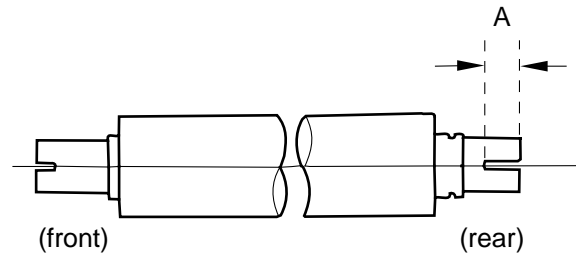

Figure 6-220
a. Orient it so that the side with a longer cut-off (section A in Figure 6-220) is toward the rear.